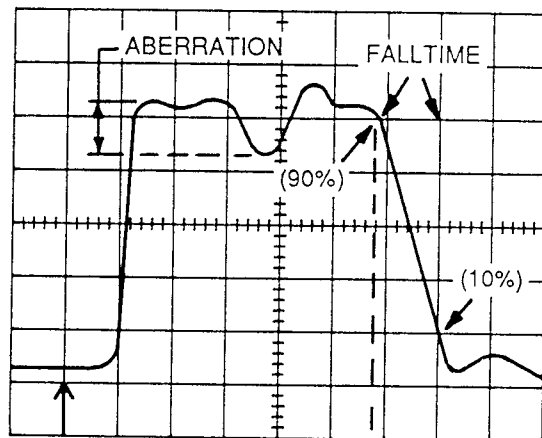

Fig. 4-20. Opt 02 Falltime/Aberration
3. Slowly turn the ZERO REF (SET) control clockwise until the pulse is on screen (see Fig. 4-20).
4. Set the pulse with the ZERO REF (SET) control (do not move the POSITION control) so that the bottom right corner of the pulse is touching any vertical graticule line and the second horizontal graticule line up from the bottom (see Fig. 4-20).
5. From the point at which the pulse intersects the second horizontal graticule line up from the bottom (10%), to the point where it intersects the second horizontal graticule line down from the top (90%) can be no more than 1.6 (metric 1.93) major divisions (see Fig. 4-20).
6. Measure the Option 02 aberration: verify that from the front corner of the pulse down to the bottom of the large notch in the middle of the pulse is less than or equal to 1.8 vertical divisions (see Fig. 4-20).